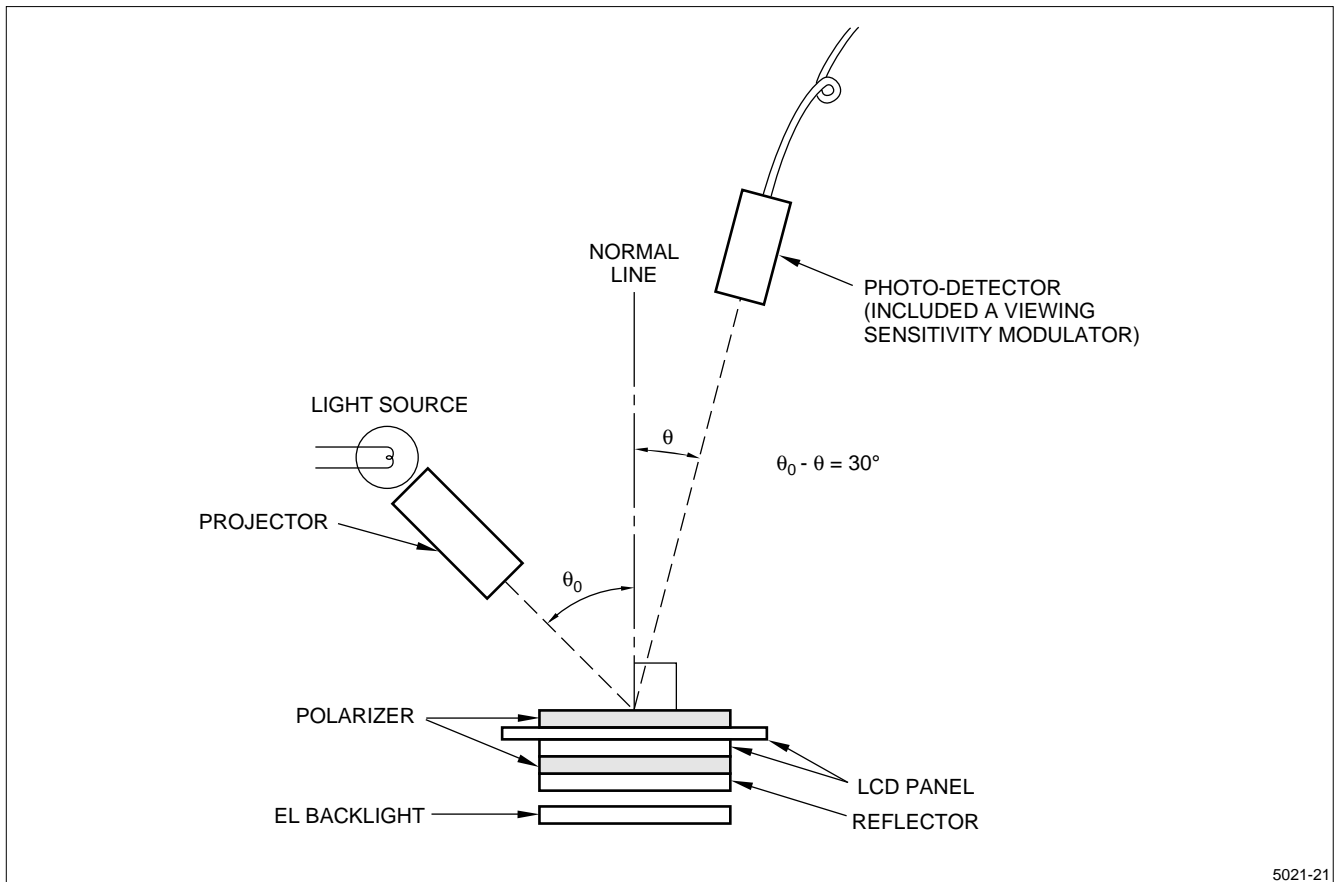
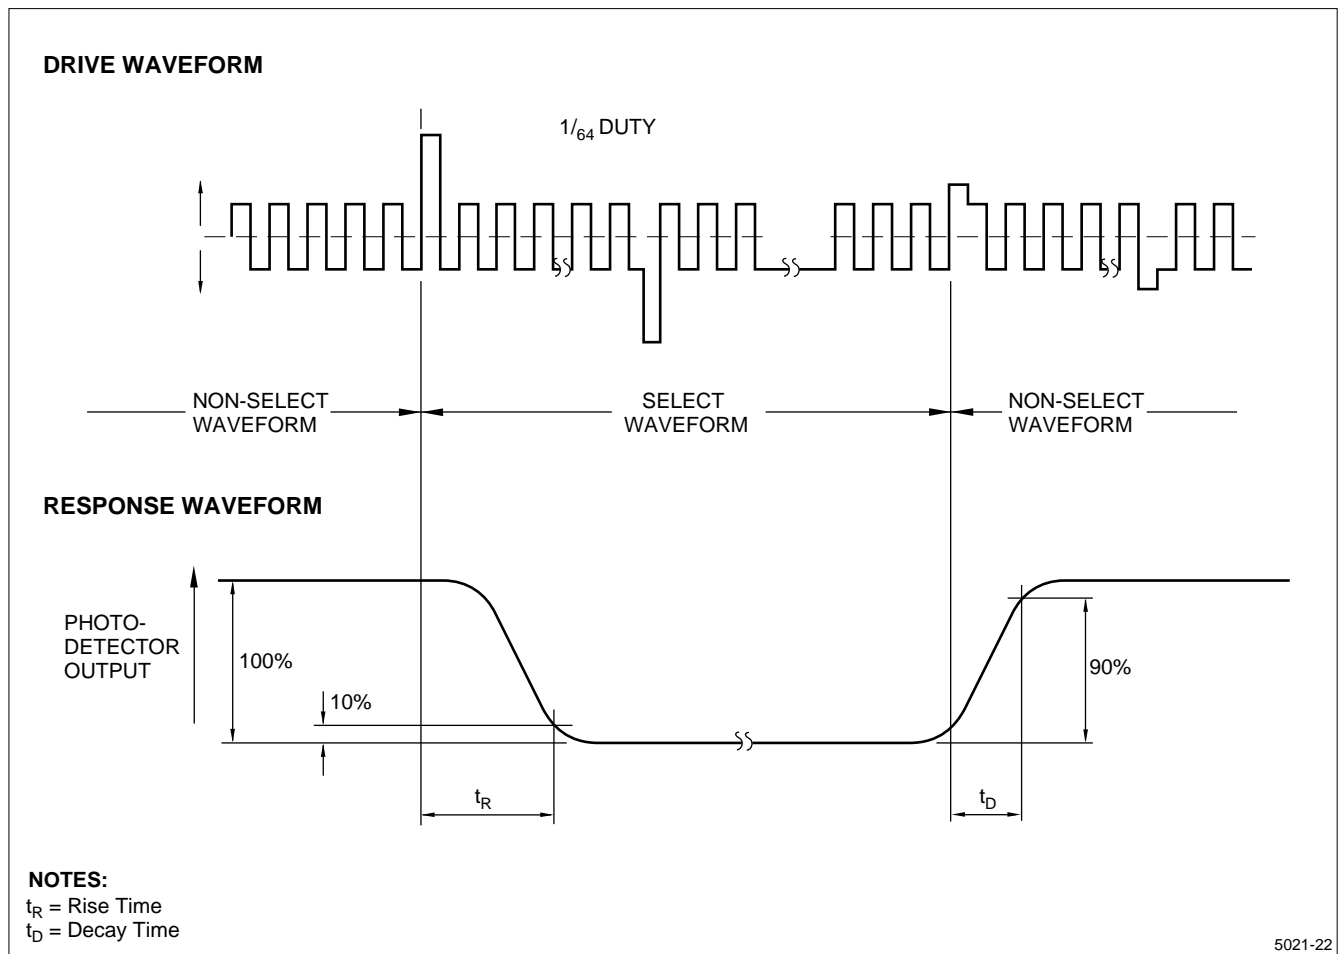

Figure 22. Optical Characteristics Test Method
Figure 23. Definition of Response Time
Contrast ratio is calculated by using the following formula when the waveform voltage (Figure 23) is applied in the optical characteristics test method (Figure 22).
- The Response characteristics of photodetector output are measured as shown in Figure 22, assuming that input signals are applied to select and deselect the dots to be measured, in the optical characteristics test method shown in Figure 23.